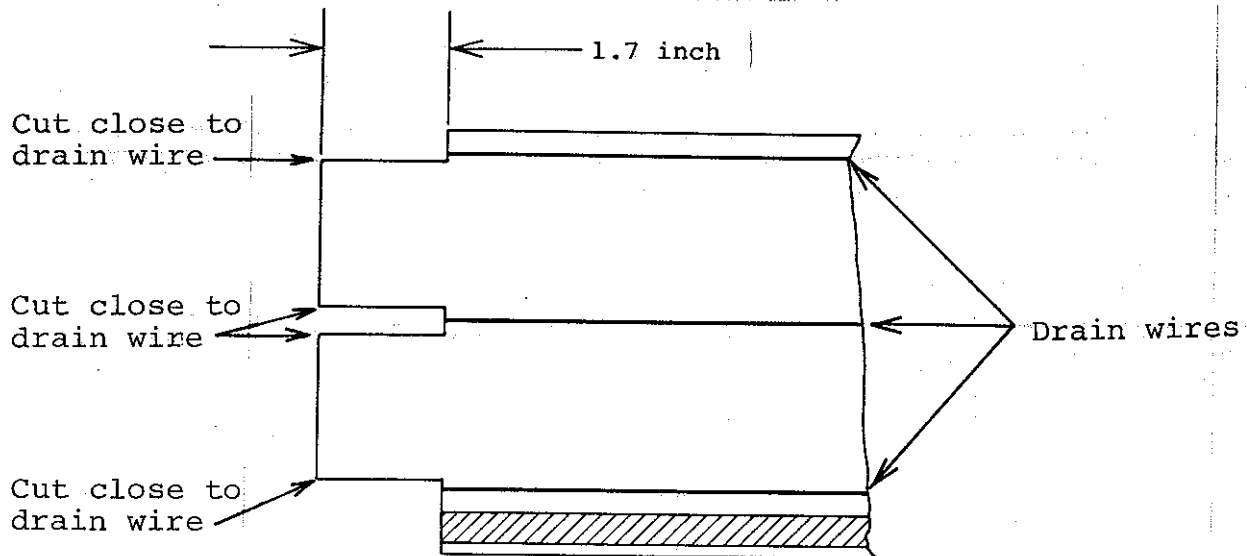

Figure 20. Trimming of Wraparound Shield
2. Trim both ends of the shield as shown in Figure 20.